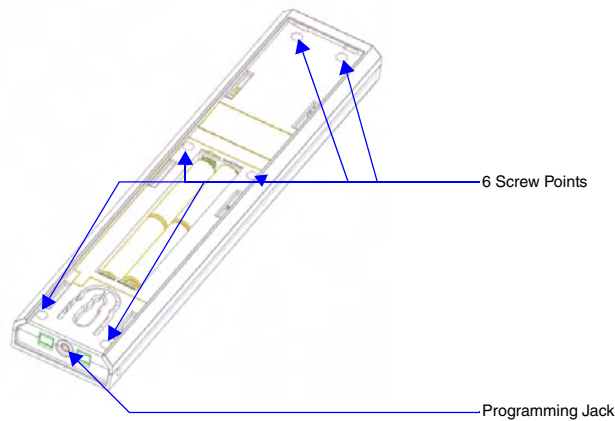

FIG. 2 Internal Mio R-1 Components
3. Unscrew the 6 screw points indicated in FIG. 2.